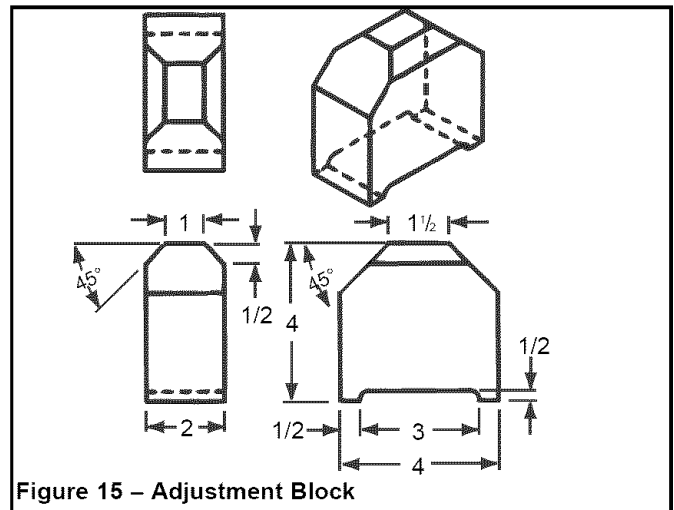
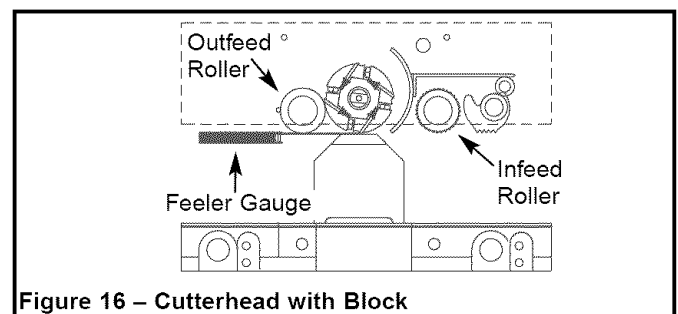

Figure 15 – Adjustment Block
Figure 16 – Cutterhead with Block
Refer to Figure 15.
Some of the maintenance adjustments require the use of a handmade adjustment block (See Figure 15).
Refer to Figures 15, 16, 20 and 21, pages 20 and 22.
- Place adjustment block (Figure 15) under cutterhead at one end as shown in Figure 16. Place 0.020" feeler gauge between block and blade. Raise or lower table so that blade just contacts feeler gauge when blade is at lowest position. Put gearbox in neutral and rotate cutterhead slowly to determine lowest position of blade. Lock table in position by tightening lock knobs (Figure 21, Key No. 9). Do not unlock table position until both sides of outfeed roller have been adjusted.
Refer to Figures 15, 16, 17, 20 and 21, pages 13, 14, 20 and 22.
- Place adjustment block (See Figure 15) under cutterhead at one end as shown in Figure 16. Place 0.004" feeler gauge between block and blade. Raise or lower table so that blade just contacts feeler gauge when blade is at lowest position. Put gearbox in neutral and rotate cutterhead slowly to determine lowest position of blade. Lock table in position by tightening lock knobs (Figure 21, Key No. 9). Do not unlock table position until both sides of chipbreaker have been adjusted.
Refer to Figures 15, 18 and 21, pages 13, 14 and 22.
- Place adjustment block (See Figure 15) on table at outside edge of roller case and on infeed side of planer. Slide block to one corner of roller case. Raise or lower table until block just contacts roller case. Lock table in position by tightening lock knobs (Key No. 9). Do not unlock table position until all four corners of the roller case have been checked.